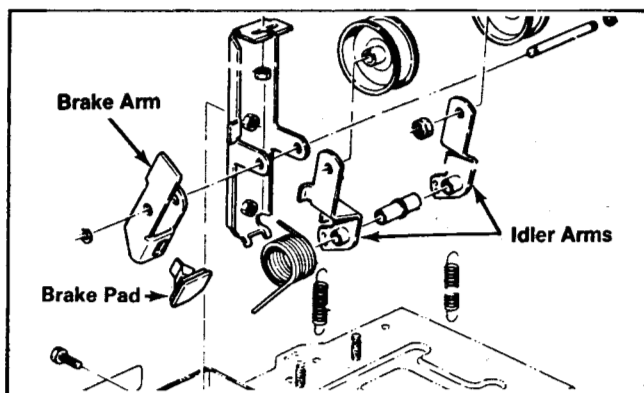

Figure 64
See Figure 64.
2. Mount the two idler arms onto the idler bushing using Figure 64 as a guide.
3. Insert the two idler arms into the idler bracket and secure with the idler pin using Figure 64 as a guide.